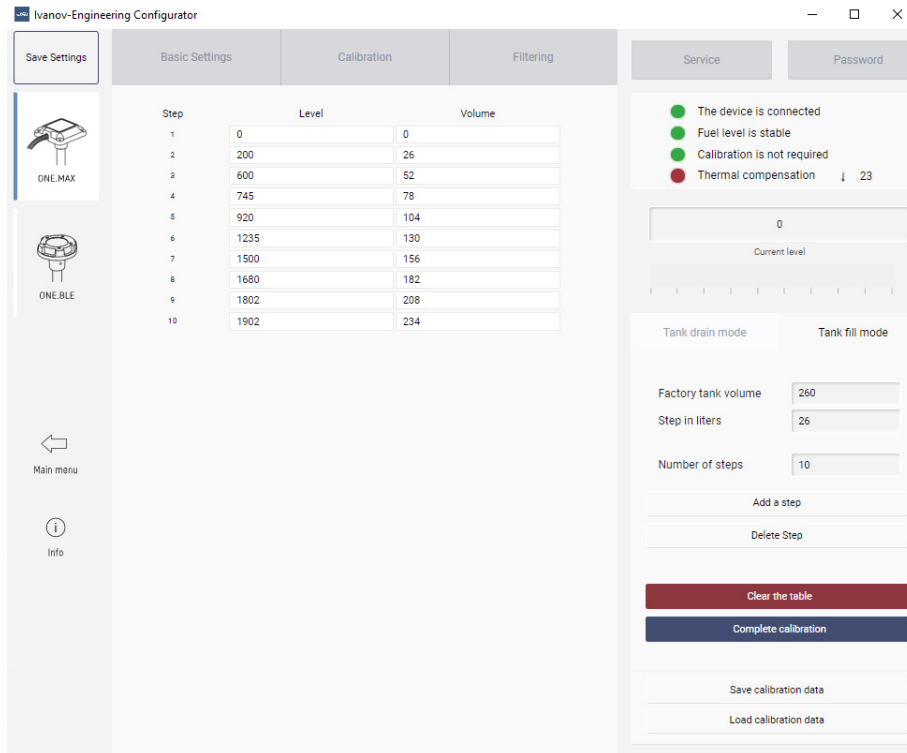

Fig. 30 – Program window at the end of the calibration process
- 5) Repeat points 3-4 until the tank is full. When the calibration process is complete, the program window will look as shown in Fig. 30.